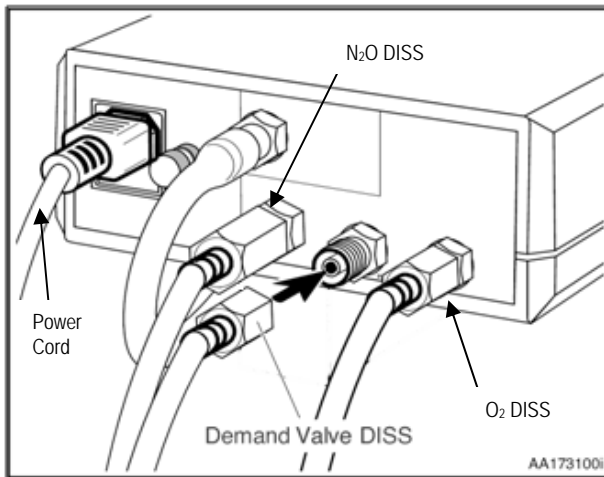

Figure 6. Connection to the back of unit.
1. Connect the DISS female hexagon fitting of the nitrous oxide hose to the male DISS, N₂O INLET, fitting on the back of the mixer head (see Figure 6). Hand-tighten and then finish tightening with a 7/8" inch open end wrench (approximately 1/8 turn). *Do not over-tighten.*
2. Connect the DISS female hexagon fitting of the oxygen hose to the male DISS, O₂ INLET, fitting on the rear of the unit (see Figure 6). Hand-tighten and then finish tightening with a 11/16" inch open end wrench (approximately 1/8 turn). *Do not over-tighten.*
An optional Demand Valve Resuscitator for emergency oxygen resuscitation is available from Porter (PN 1506-1) and connects directly to the O₂ outlet (Figure 6) on the rear of the unit.